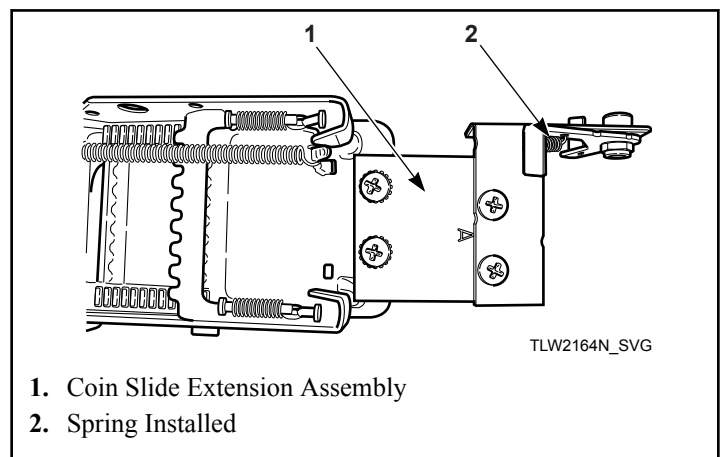

Figure 42
6. Install coin slide extension assembly onto top of coin slide using two remaining screws and lockwashers. Place lockwasher under head of screws, above bracket "A". Refer to *Figure 42*.
3. Install slide extension onto top of coin slide using two screws. Refer to *Figure 42*.